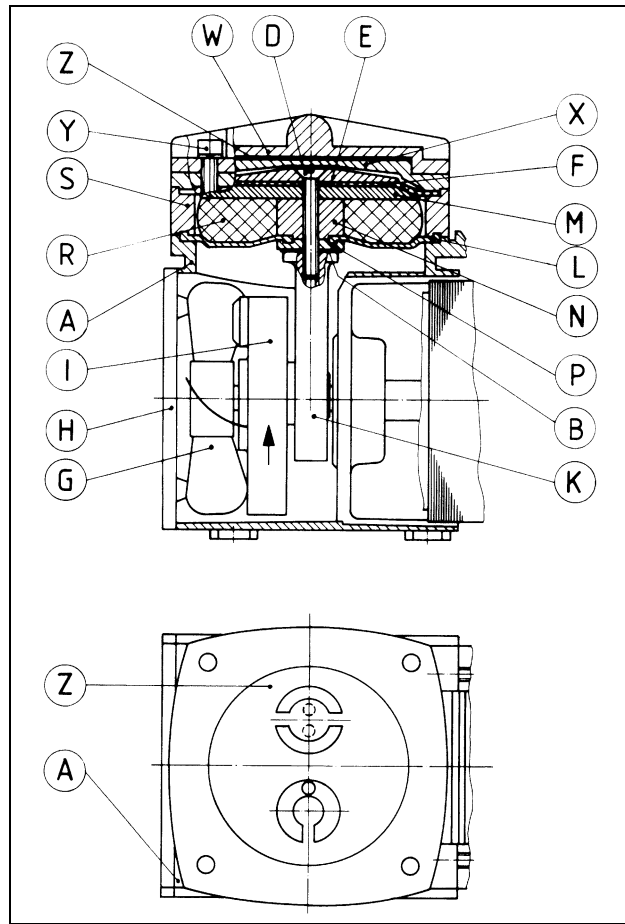

Fig. 4: Cross section N 023_AN.30 E
Change the diaphragm and valve plate in the following sequence (see fig. 4):
12. Place the new valve plate (**Z**) on the intermediate plate (**X**) as shown in figure 4.
*according fig. 4